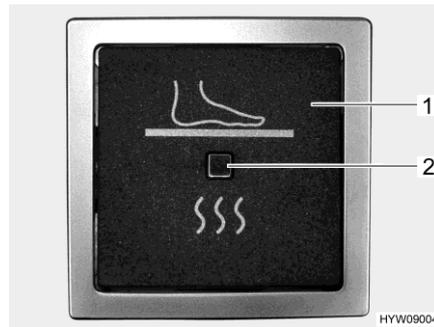

Fig. 132 Switch (electrical floor warming unit)
- Press the rocker switch (Fig. 132,1). The indicator lamp (Fig. 132,2) on the switch is illuminated.
- Press the rocker switch (Fig. 132,1). The indicator lamp (Fig. 132,2) on the switch goes off.